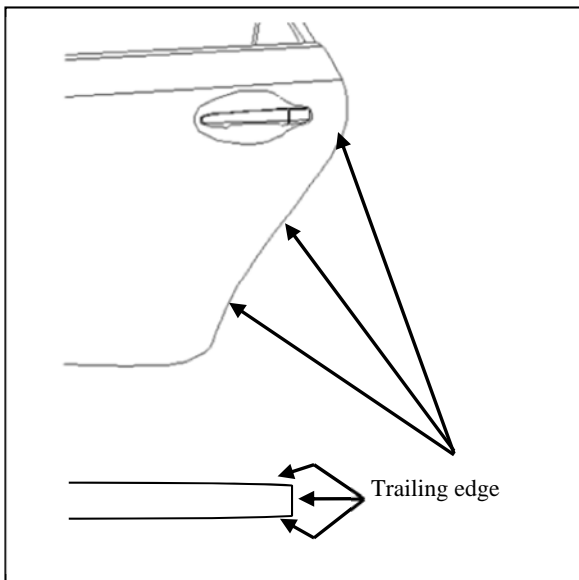

Fig. 1-1
(1) Fully open the rear driver side door.
(2) Using 2 (two) lint free cloths:
- (a) Spray three to four pumps of Simple Green (or VDC approved cleaner) onto a lint free towel and pinch the wet towel between your thumb and forefinger while running along the length of the door edge to clean the inside and outside of the trailing edge of door. Make several passes to ensure the wax and oil has been removed (Fig. 1-1).